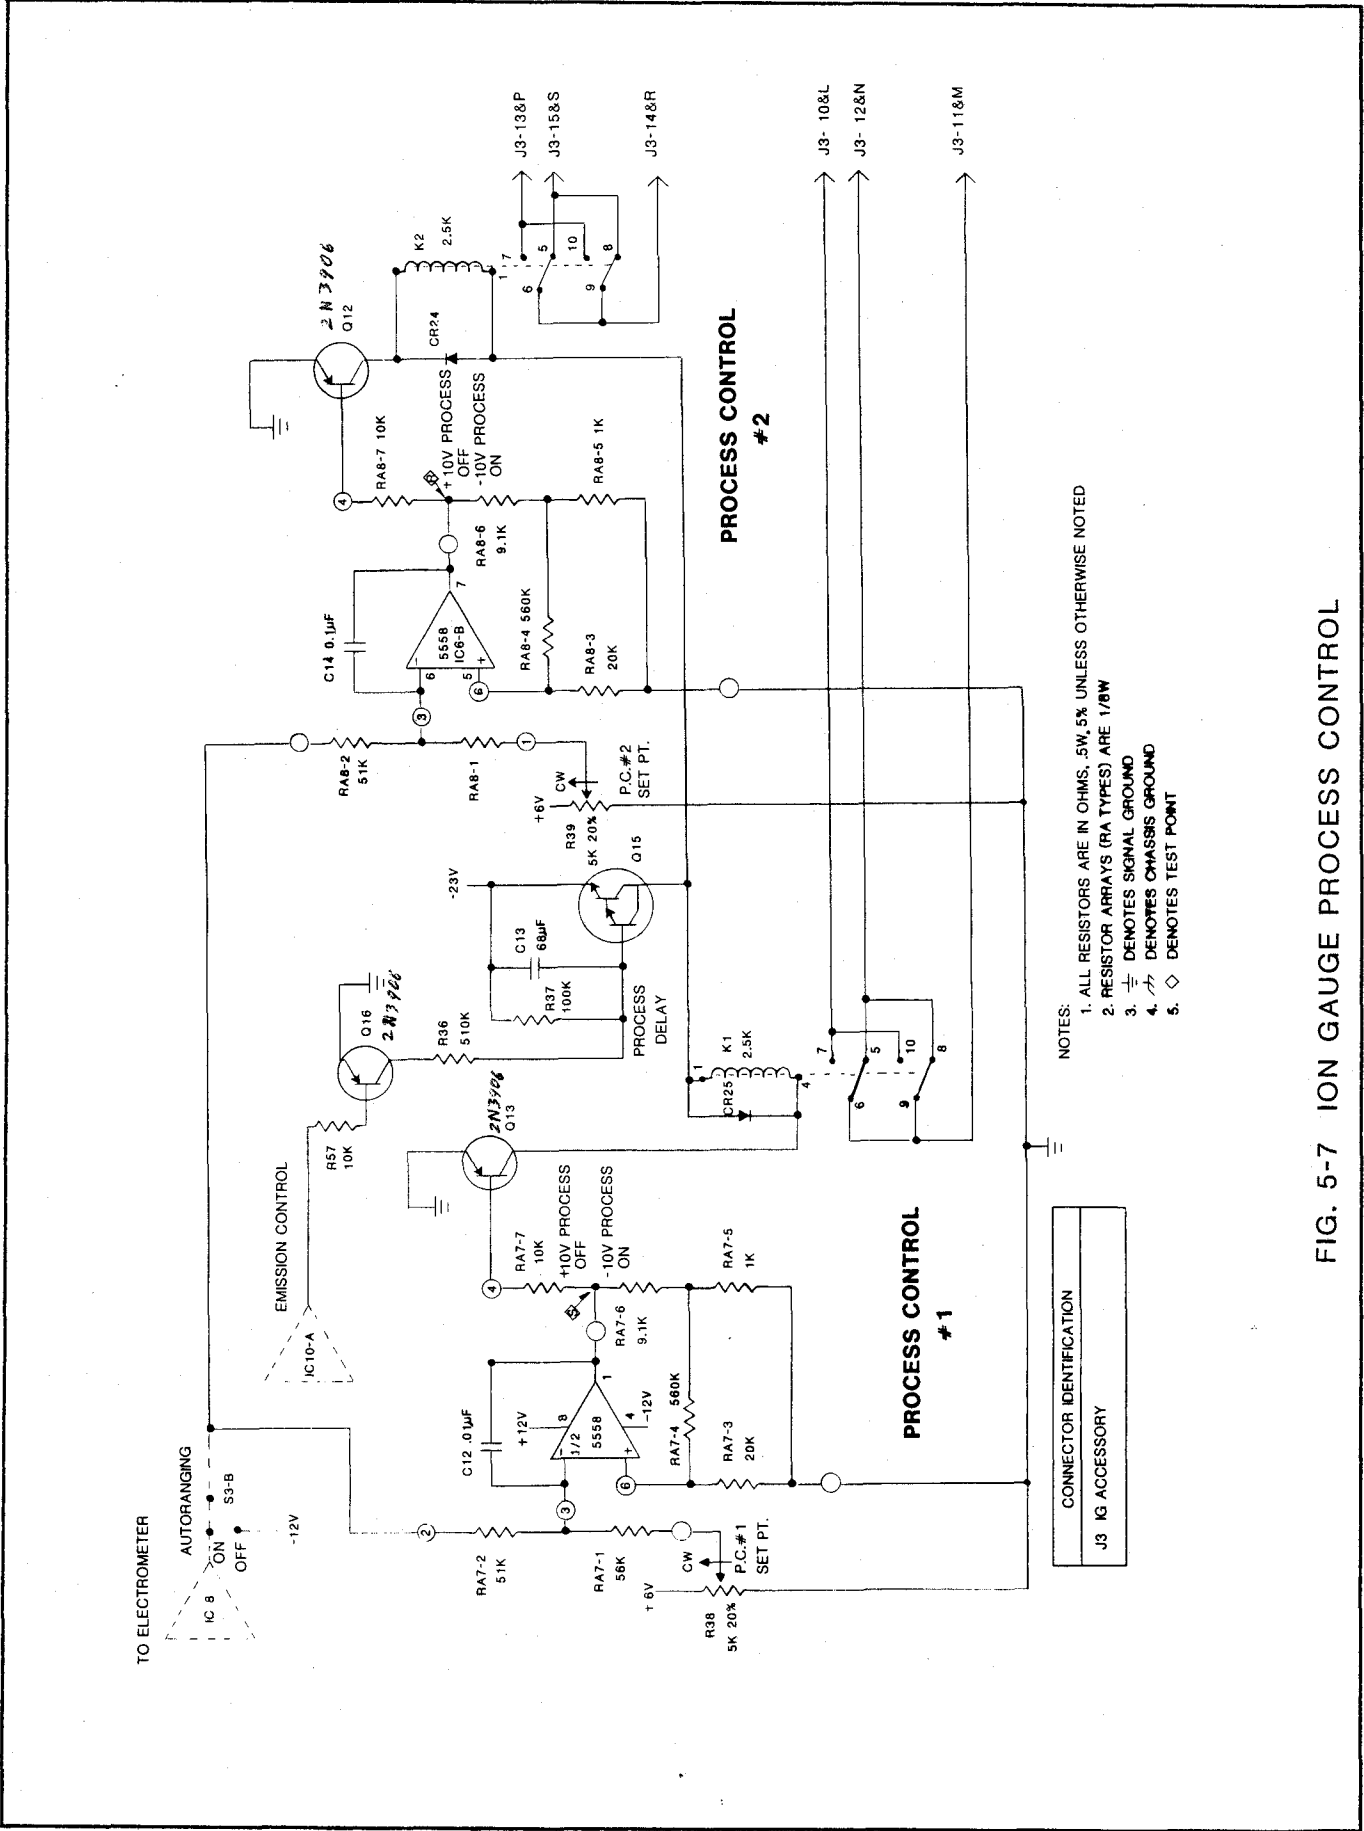

FIG. 5-7 ION GAUGE PROCESS CONTROL
5.10 IG Process Control (Refer to Fig. 5-7)